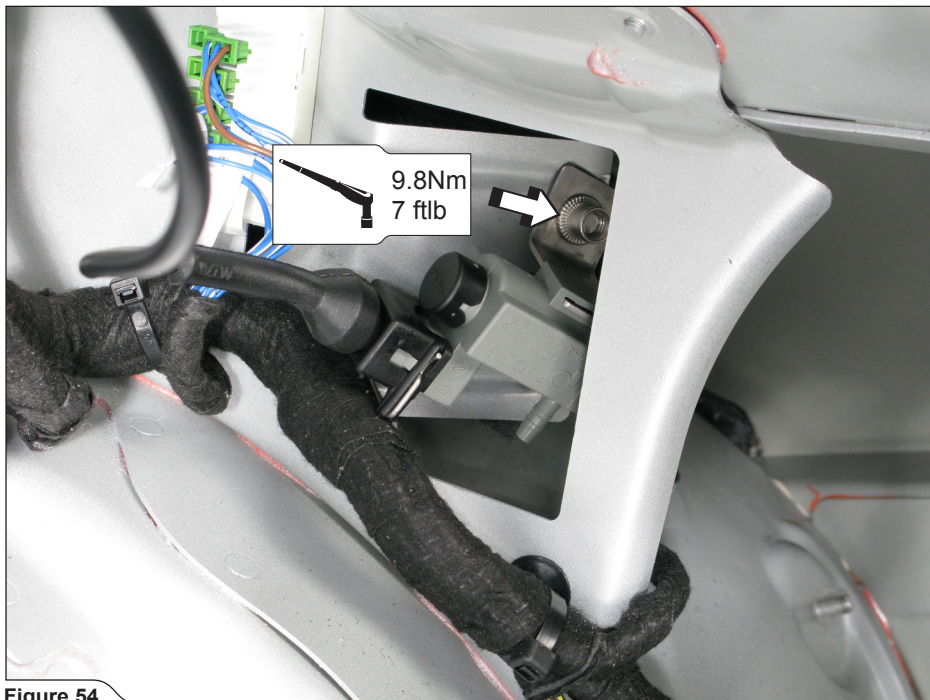

Figure 54
17. **For wireless kit installation:** attach the electromagnetic valve into the trunk, using M6x12 bolt from Arapovič installation kit (**Figure 54**).